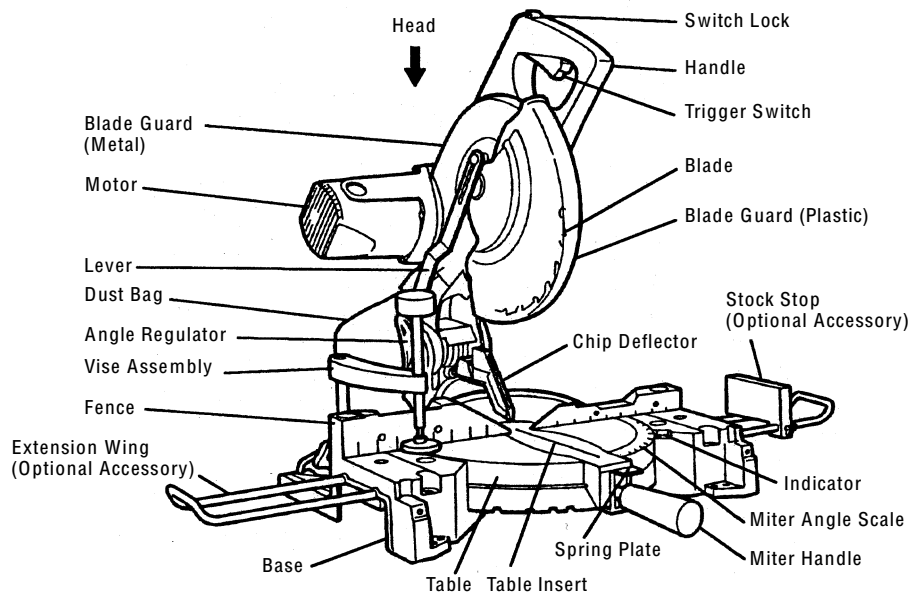
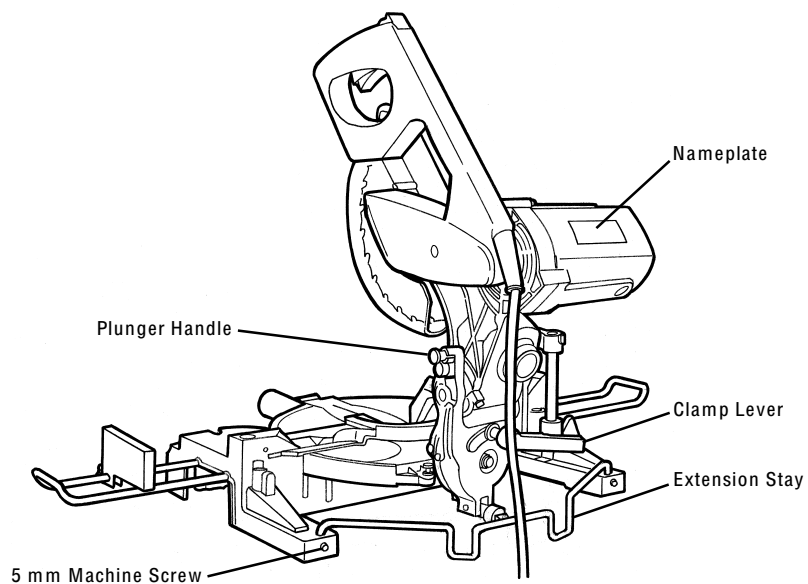

Fig. 1
Fig. 2
- ① Holder Assembly (Fig. 1) (Code No. 317542)
- ② Vise Assembly (Code No. 317541)
- ③ Saw blade 10" (255 mm) TCT Saw blade for fine surface cut (Total teeth: 60) (Code No. 976472)
- ④ Saw blade 10" (255 mm) TCT Saw blade for normal cut (Total teeth:70) (Code No. 976473)
Attach the power tool to a level, horizontal work bench in accordance with Fig. 4. Select 5/16" (8 mm) diameter bolts suitable in length for the thickness of the work bench. Bolt length should be at least 2" (50 mm) plus the thickness of the work bench. For example, use 5/16" (8 mm) × 3" (75 mm) bolts for a 1" (25 mm) thick work bench. The extension stay attached to the rear of the base (see Fig. 2) helps stabilize the power tool.
For transportation purpose, grasp the handle (see Fig. 1) with one hand and hold the base at the left end grip section with the other hand to carry.
Attach the dust bag, miter handle, extension wing, stock stop and vise assembly as indicated in Fig. 1 and Fig. 2.
(1) Insert the extension stay into the hole of the base.
(2) Fasten the two 5 mm machine screws and fix an extension stay as indicated in Fig. 2.